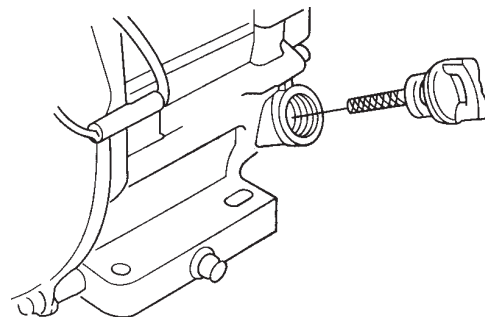

Figure 10. Engine Oil Dipstick (Removal)
2. Remove the filler dipstick from the engine oil filler hole (Figure 10) and wipe it clean.